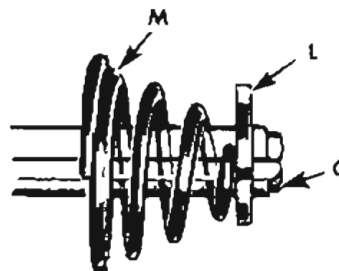

Fig. 37. Stop Washer and Tension Spring
6. Hold these assembled parts against shoulder of stud and place tension spring M and stop washer L on stud G, as shown in Fig. 37.